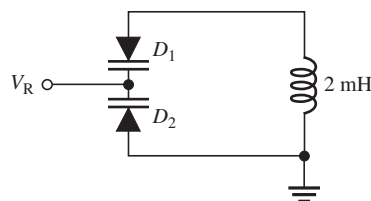

FIGURE 2-81
20. What capacitance value is required for each of the varactors in Figure 2-81 to produce a resonant frequency of 1 MHz?